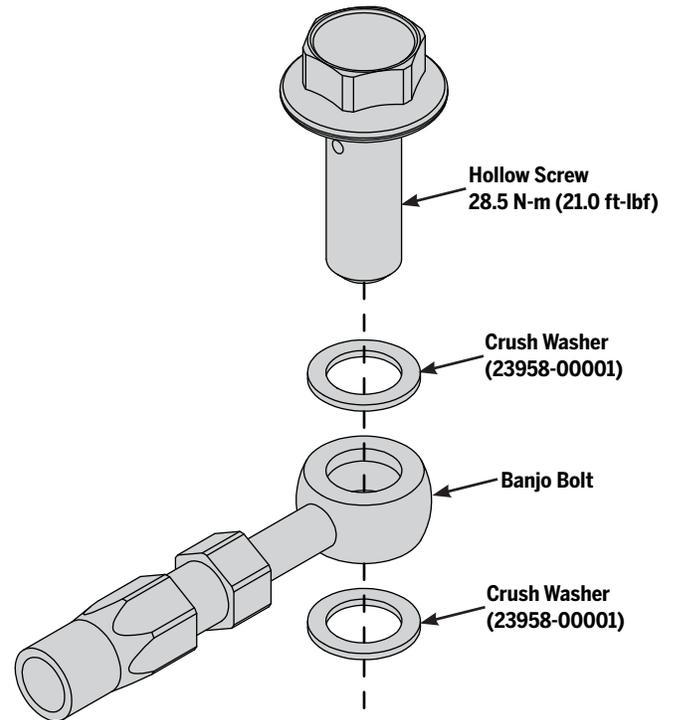

Figure 83: Brake Line Fasteners
2. Using a 14 mm socket wrench, attach the Banjo Bolt (on the end of the brake line) to the Caliper. Torque to **28.5 N-m (21.0 ft-lbf)**. See **Figure 83**.
5. Using a 14 mm socket wrench, install the Banjo Bolt onto the Master Cylinder. See **Figure 83**. Torque to **28.5 N-m (21.0 ft-lbf)**.